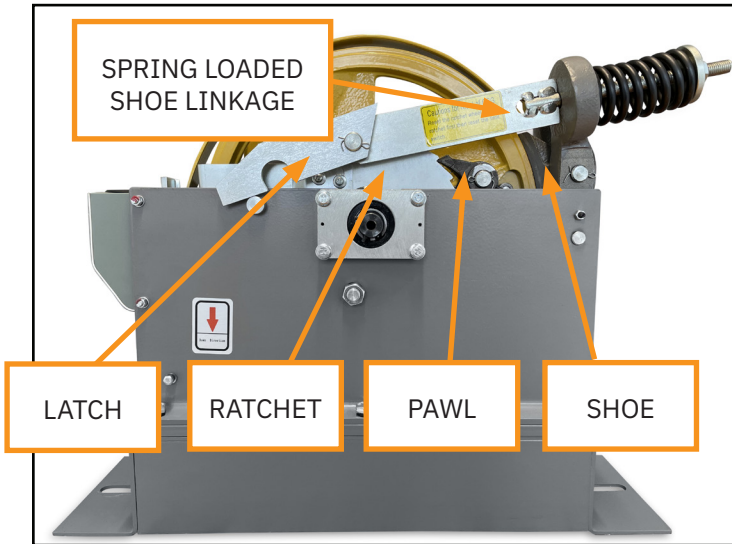

Figure 3
- If the elevator continues to move and the speed continues to increase, the furthered outward movement of the flyweights will cause the pawl to engage the ratchet and thru the spring loaded shoe linkage will engage the governor shoe on to the governor rope to stop it (*see figure 3*).